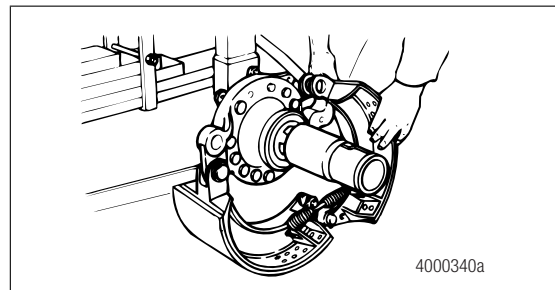

Figure 3.9
3. Rotate the top shoe to release the tension on the brake shoe return spring. Remove the shoe. Figure 3.9.